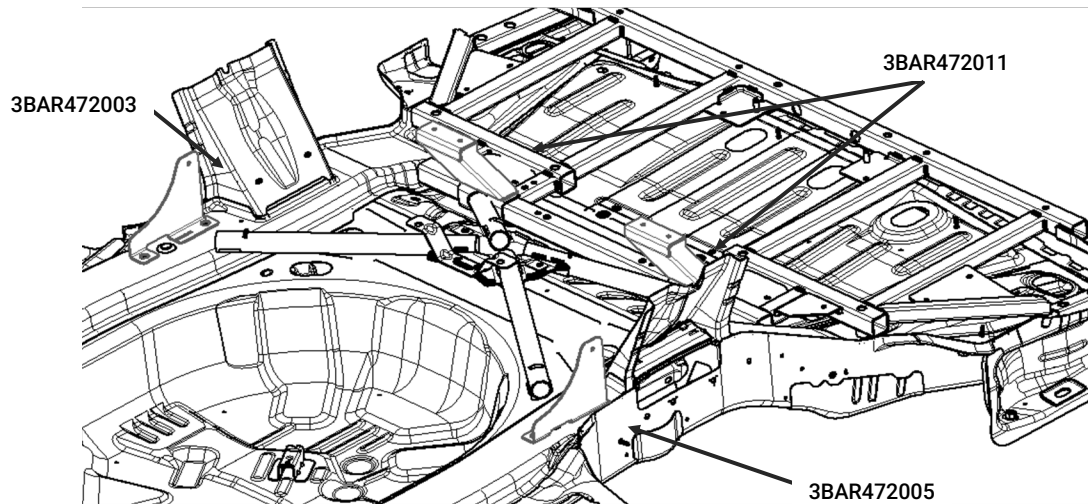

Figure 1
- B. Place (1) Barrier Support Bracket [3BAR472011] on top of the X-brace with the offset towards the rear of the vehicle. Set the front edge of the bracket just behind the front edge of the X-brace. Reinstall the OEM bolts and torque to factory specifications.
- F. Figure 1 on the following page shows the brackets installed.